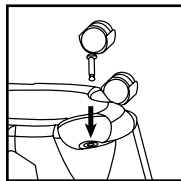

FIGURE 7
10. Insert caster into bottom of tank by placing stem of caster into holes provided. Apply pressure and twisting motion until casters snap into place. **FIGURE 7.**